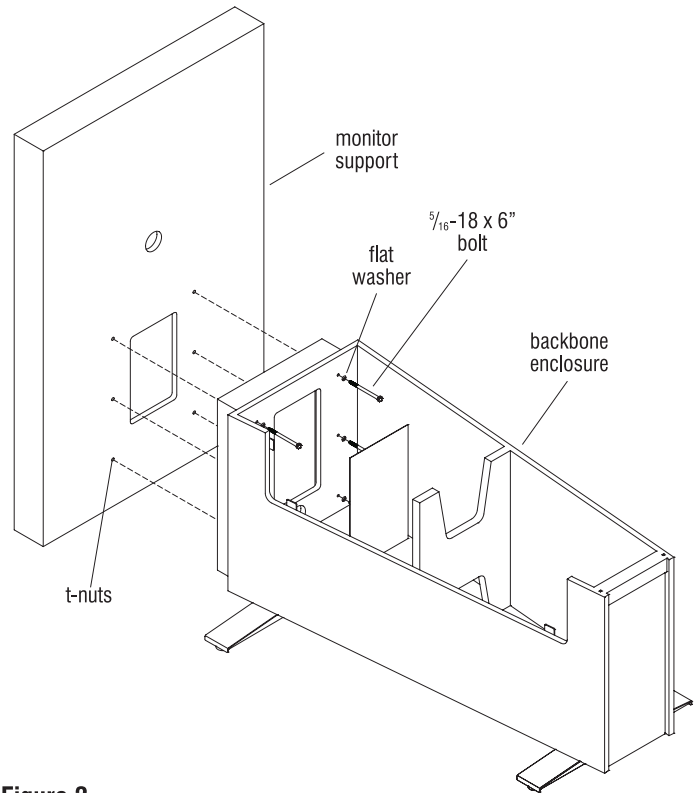

Figure 2
8. Move the monitor support into position behind the Backbone enclosure as illustrated. Locate the six $\frac{5}{16}$ -18 x 6" bolts from the hardware kit and place a flat washer on each of the bolts. Insert the bolts through the interior of the enclosure unit and into the T-nuts in the monitor support front panel. To do so, the monitor support will need to be elevated $\frac{1}{2}$ " or so. Leave each bolt loose until all six are threaded into the monitor support front panel. After all six bolts are threaded in, square the bottom of the support to the floor and tighten all six bolts to secure (Figure 2).